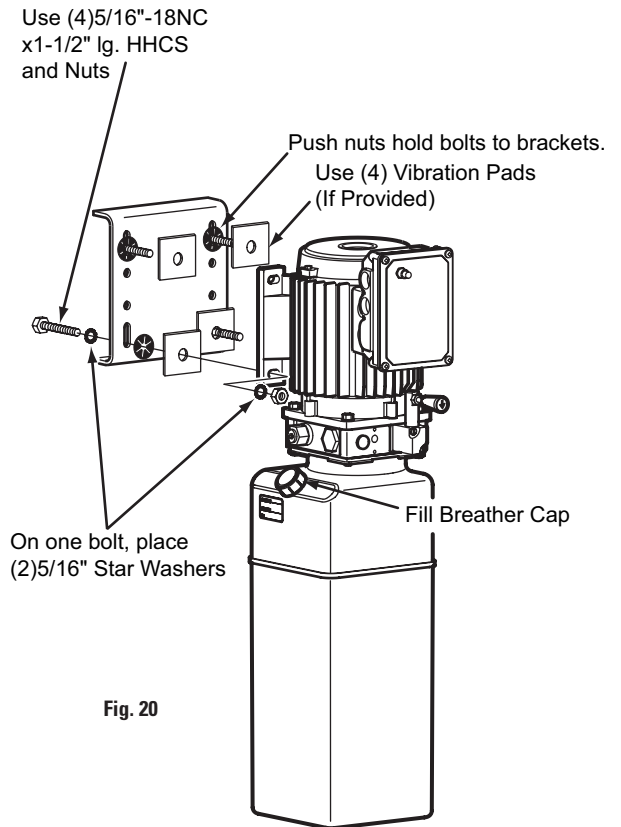
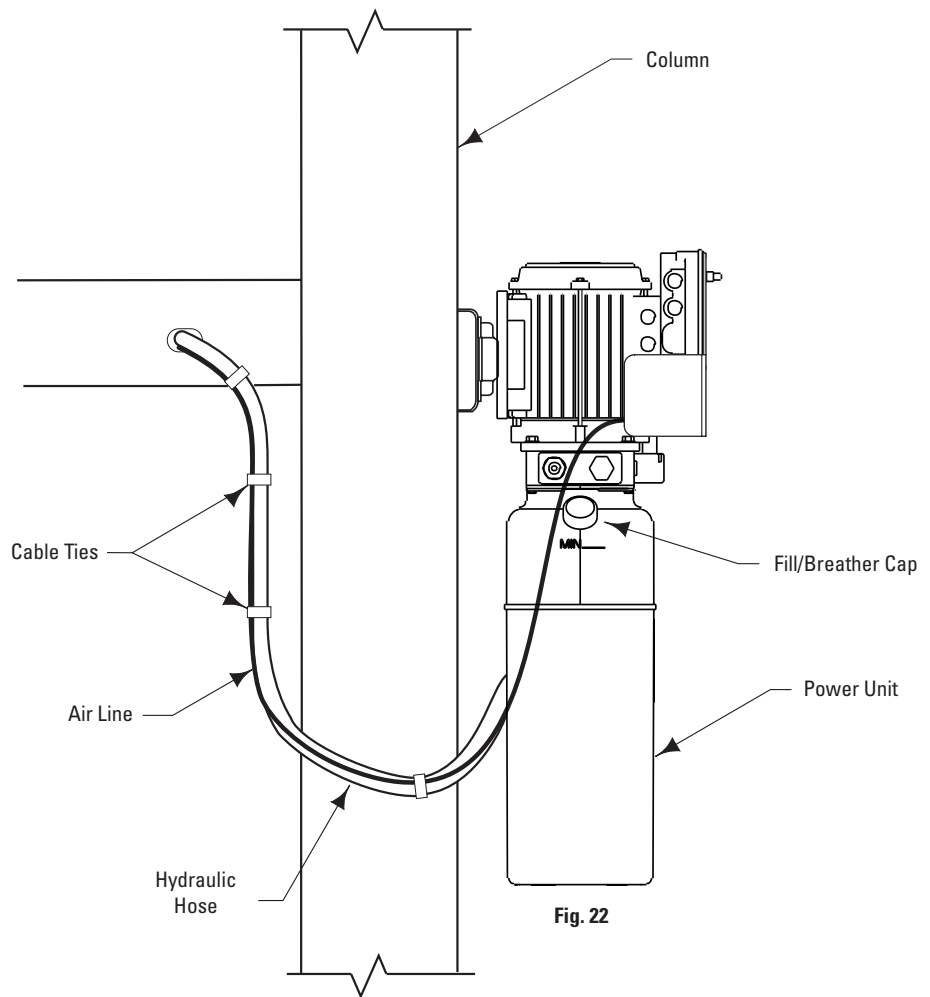

Fig. 20
Fig. 22
- A. Put (4) 5/16" x 1-1/2" hex bolts through holes in column bracket using push nuts to hold in place.
- B. Mount power unit, with motor up, to column bracket and install lock washers and nuts, Fig. 20. Run hydraulic hose from runway through slot in side of runway to power unit output port, Fig. 22. DO NOT use Teflon tape on hydraulic hose connections.
- D. Run hydraulic hose from runway through slot in side of runway to elbow, Fig. 22. DO NOT use Teflon tape on hydraulic hose connections. Clean elbow and hose. Inspect all threads for damage and hose ends to be sure they are crimped. Attach hose to elbow using Flared Fittings Tightening Procedure.
17. Oil Filling: Use Dexron III ATF, or hydraulic fluid that meets ISO 32 specifications. System capacity is thirteen (13) quarts. Use Dexron III ATF or equal. Fully lower lift. Remove fill/breather cap, Fig. 22. Fill to minimum fill line on tank, replace cap.
- 19. Bleeding:** Lift must be fully lowered before changing or adding fluid. Raise and lower lift six times. The cylinder is self-bleeding. After bleeding system, fluid level in power unit reservoir may be down. Add more ATF or ISO32 hydraulic oil, if necessary, following instructions in Step 16. To pressure test, run lift to full rise and run motor for approximately 5 seconds. Stop and check all fittings and hose connections. Tighten or reseal if required. Lower lift. If fill/breather cap, Fig. 22, is lost or broken, order replacement.